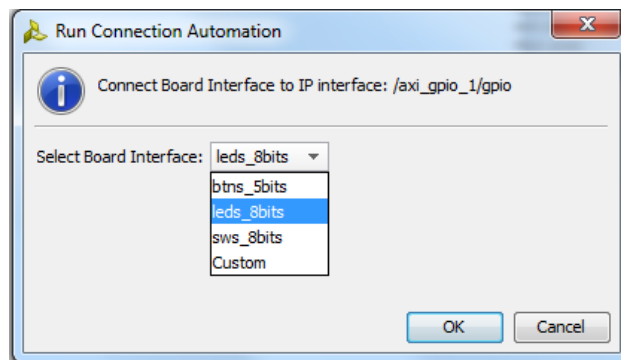

Figure 18: Select Board Interface Options
3. Select `leds_8bits` (FIGURE 18).